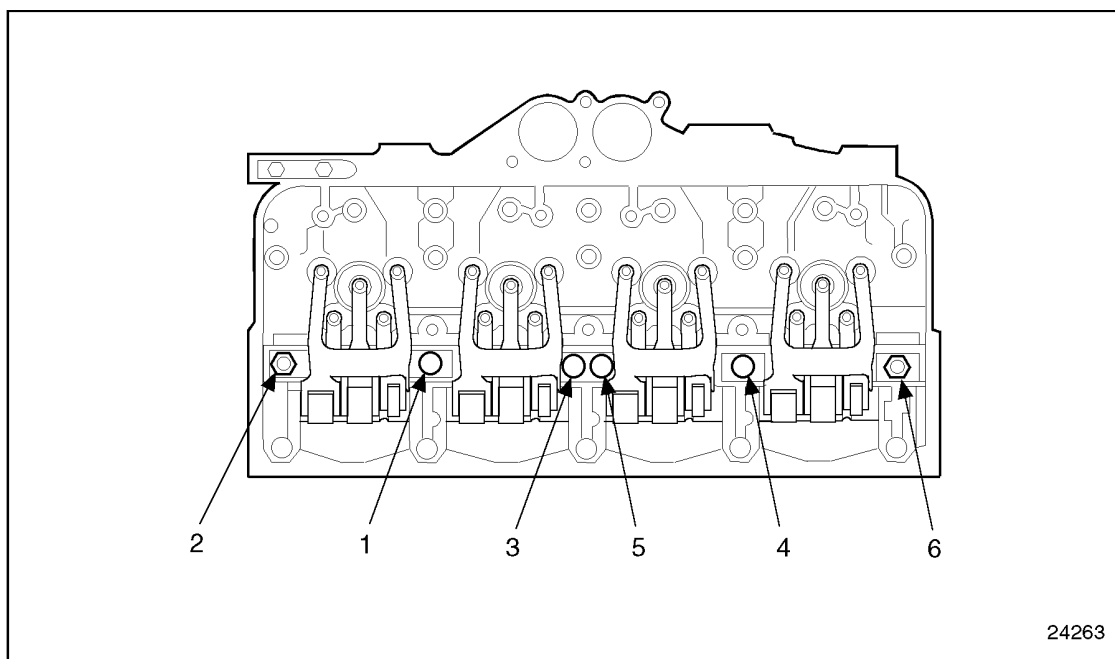

Figure 1-282 Rocker Arm Shaft Bolt and Nut Torque Sequence
- [n] When the proper readings of 0.025-0.114 mm (0.001-0.0045 in.) are obtained at all four (4) positions, hold the idler gear. Refer to step 9[i] as the first step and refer to step 9[j] as the final step, and torque the top two adjustable idler gear flanged nuts to 57-67 N·m (42-49 lb·ft).
- [v] Install the rocker arms and torque the rocker arm shaft's thru-bolts and nuts to 101-116 N·m (75-86 lb·ft) using the sequence. See Figure 1-282.